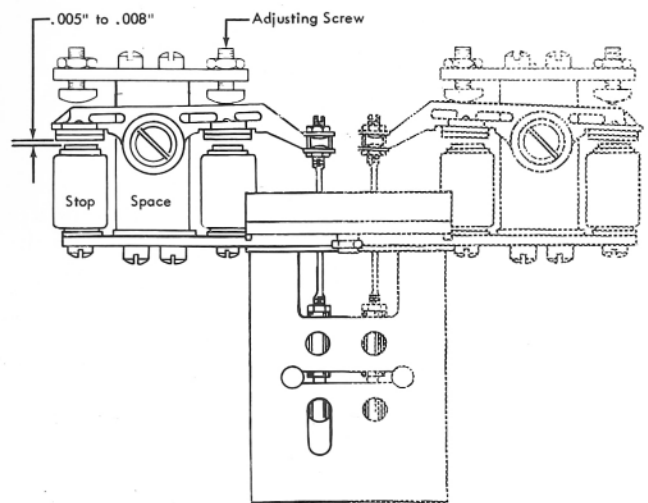

Figure 12. Space Magnet Stop Position
6. With the space stop magnet energized, adjust the back stop screw nearest the operating rod for .005" to .008" clearance (preferably .005") between the armature and the stop magnet cores (Figure 12).